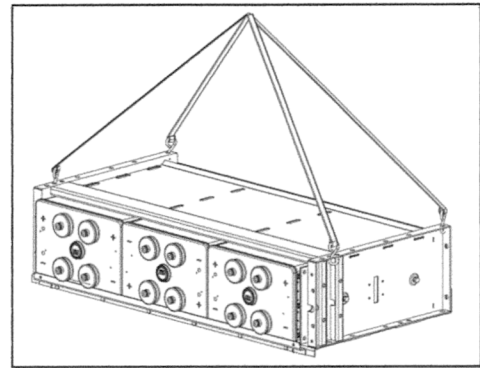

Figure 6-2 Installation Using Hoist and Straps
- c) Assemblies consisting of floor mounting base with one stack module can be moved using the lifting strap or a fork truck, pallet jack or other appropriate lifting device. See Figure 6.2